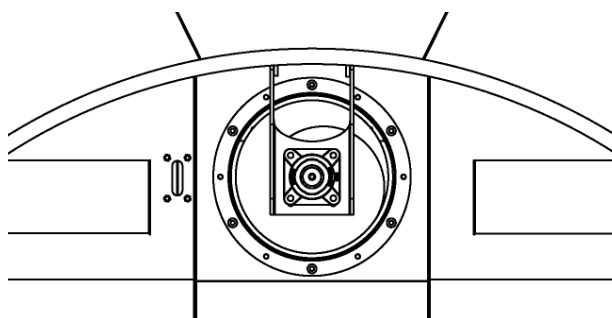

Figure 17 - Auger front
10) Before continuing with the preparation of the grain bag, check that the auger is completely free from obstructions along the entire tube and sleeve, i.e. that it rotates freely. Figure 17 shows the front of the auger.